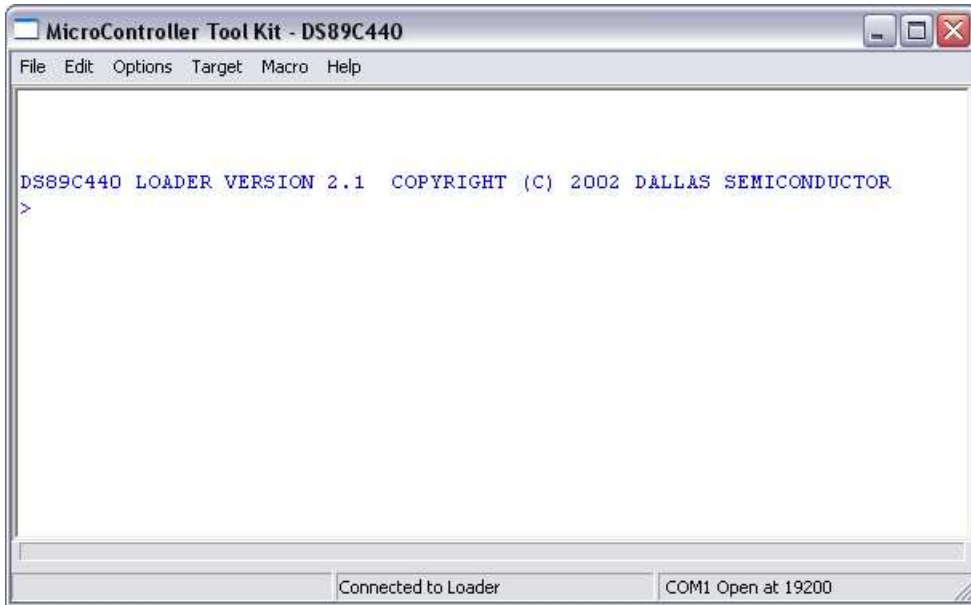

Figure 5 – Connecting to the Serial-to-JTAG Board Bootloader
8. Select **Target** → **Connect to Loader** from the menu. MTK should display a loader banner, as shown in Figure 5.